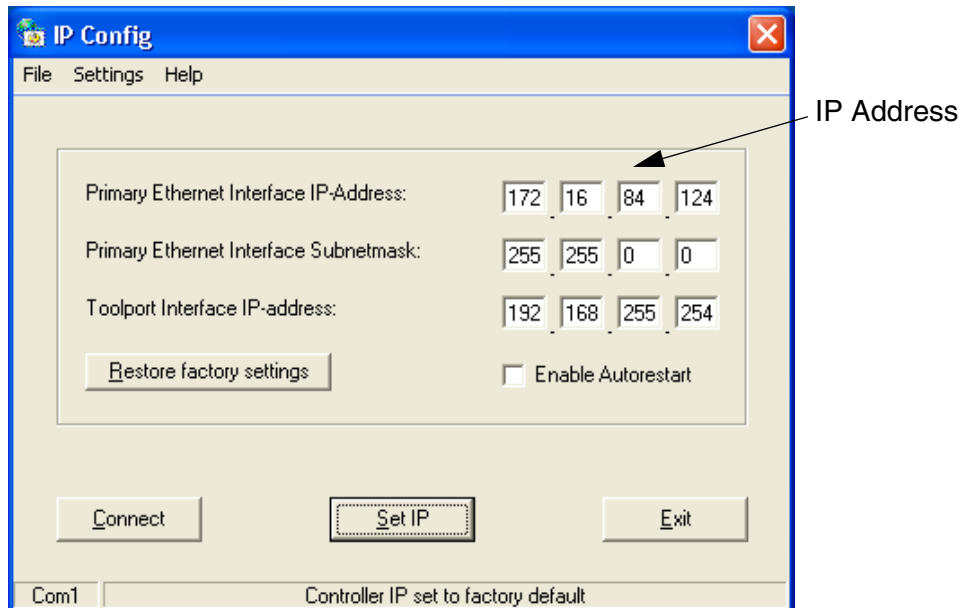

Figure 55. IP Config window for setting unique IP address.
- Enter a unique IP address (obtainable from your Control Network Administrator). Example: IP address 172.16.84.124, see Figure 55.